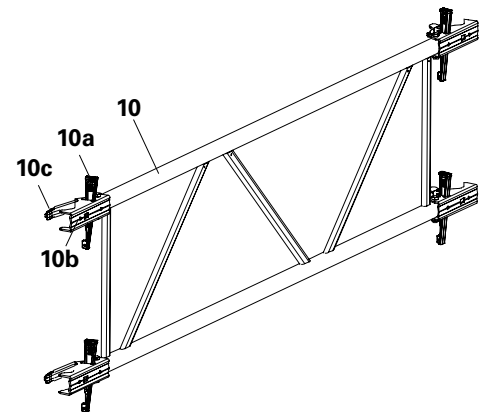

Fig. A1.05
1. Release Wedge (10a) on the fasteners (10b) and open clamping jaws (10c). (Fig. A1.05)